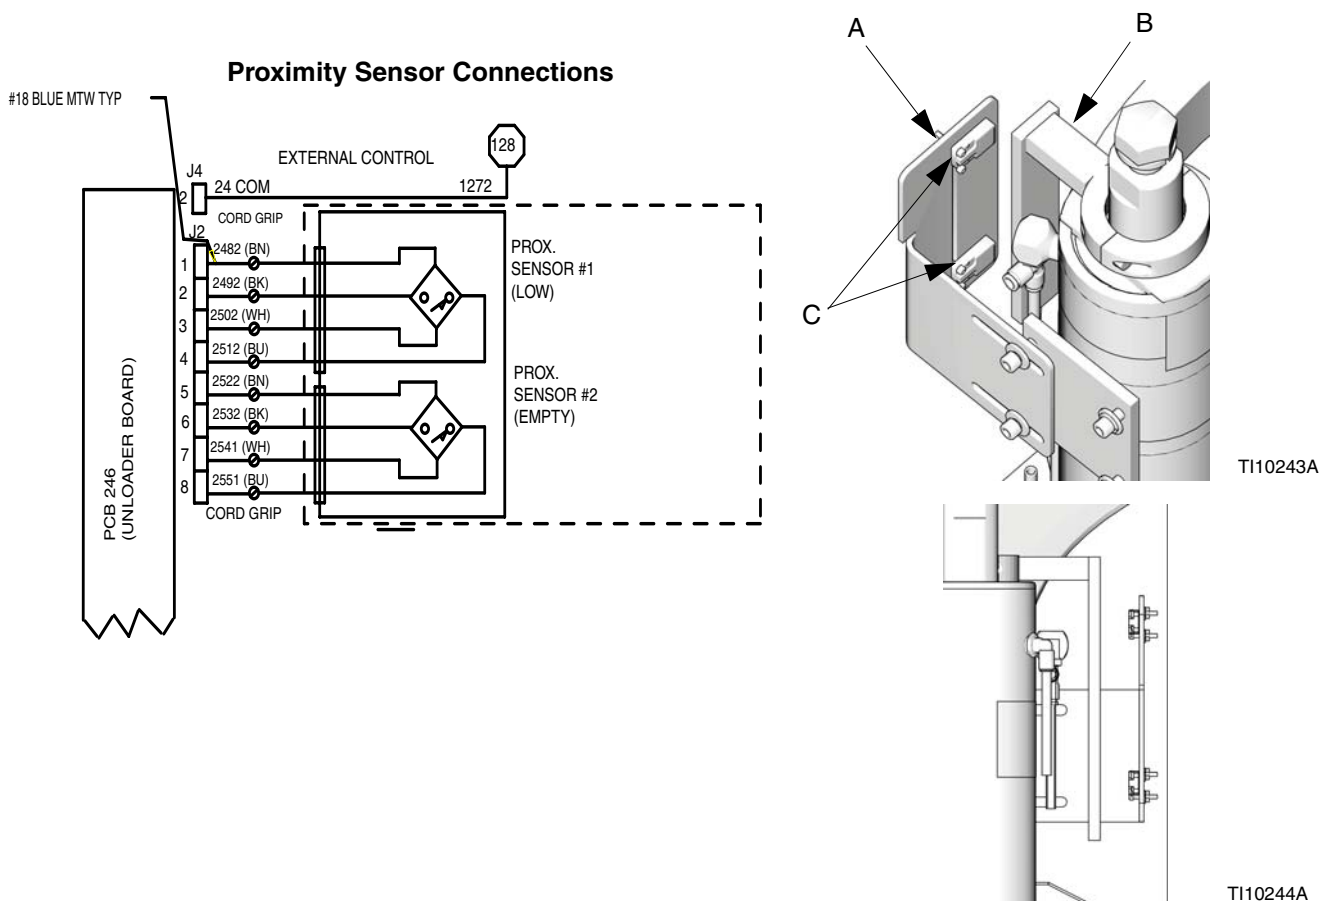

FIG. 26: Optional Low Level Kit
The Pail Low and Empty Sensor Kit is used to indicate that a pail is EMPTY or LOW, depending on the adjustment of the proximity switch. The kit contains a sensor mounting bracket (A), activator (B), sensors (C), and a cable for connecting to the Therm-O-Flow 20 control panel. See FIG. 26.